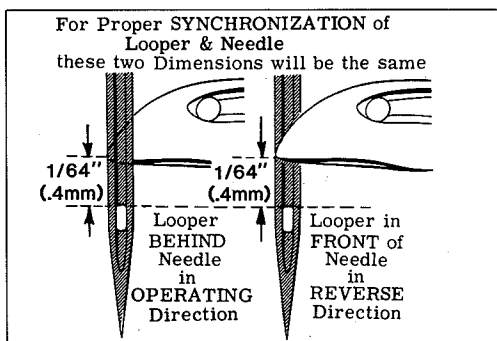
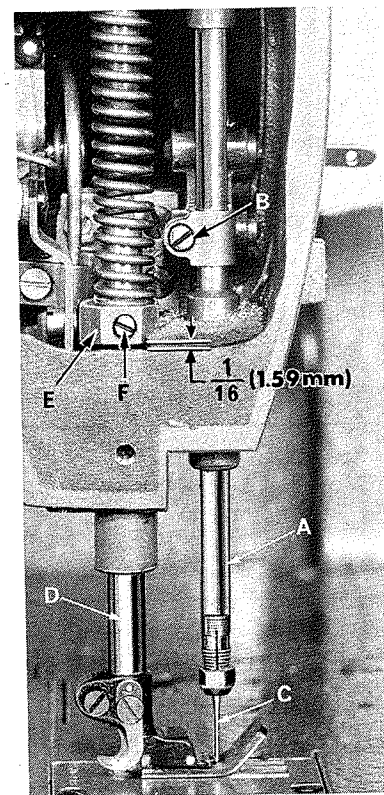

Fig. 4
Fig. 8
NOTE: The 1/64 inch (.4mm) dimension shown in Fig. 4 is for final setting of needle bar height.
The height of the needle (C, Fig. 8) is correct when the top of its eye is  $\frac{1}{64}$  inch (.4mm) below the underside of the looper, with the looper point flush with the left side of the needle (See Fig. 4). If adjustment is necessary, loosen screw (B, Fig. 8) and move needle bar (A) up or down as required and retighten screw.